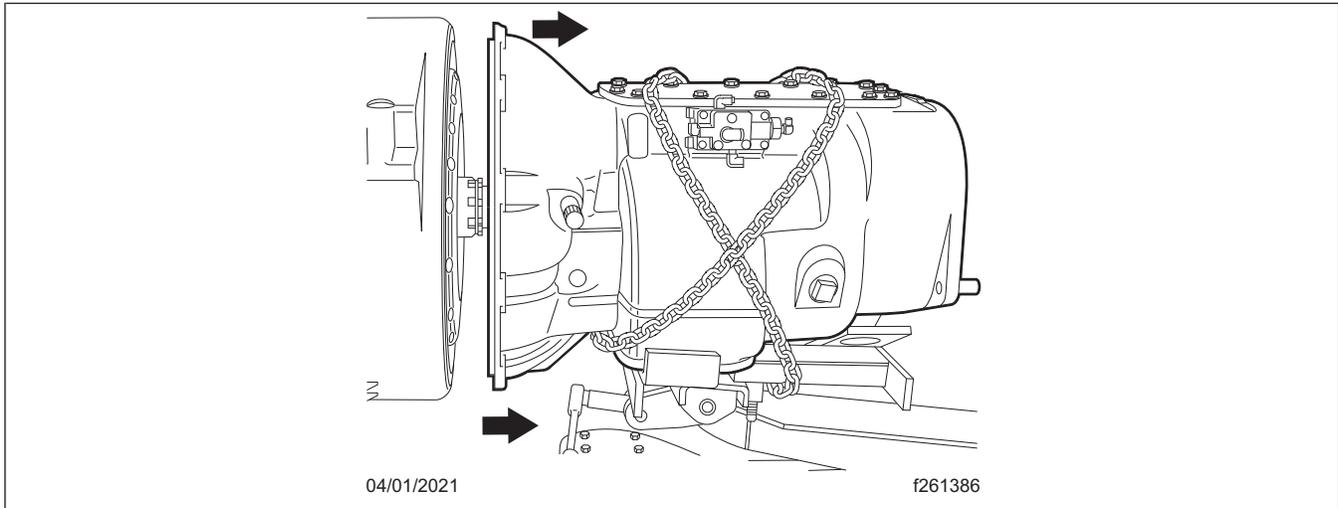

Fig. 36, Transmission Removal
20. Pull the transmission back, until the transmission input shaft is clear of the clutch and the engine flywheel housing. Lower the transmission. See Fig. 36.